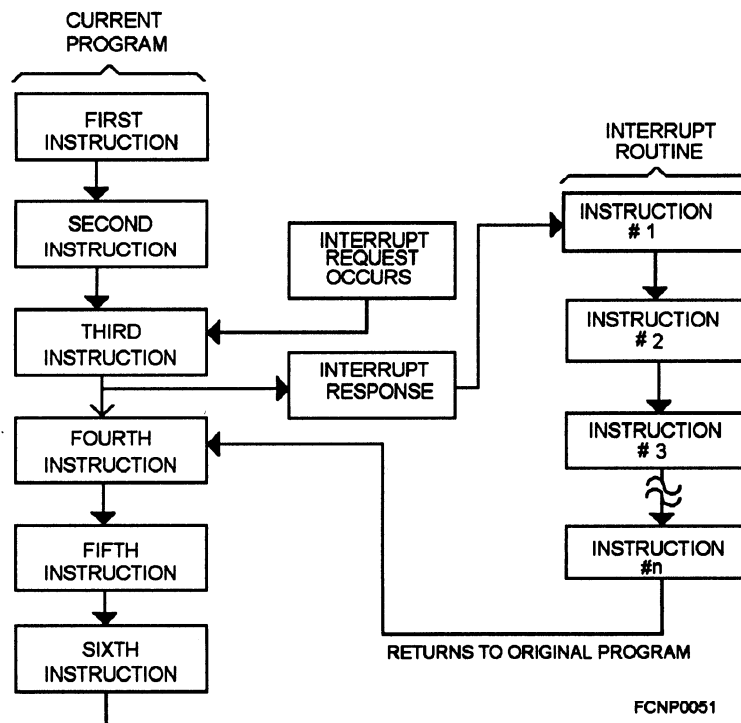

Figure 5-9.—General sequence of an interrupt response.
**INTERRUPT HANDLING PROCESS.** —CPUs follow a specific sequence of events when processing an interrupt. Remember interrupt processing has priority over normal program execution. We discuss the general interrupt handling process in order of its sequence. Figure 5-9 illustrates the general sequence